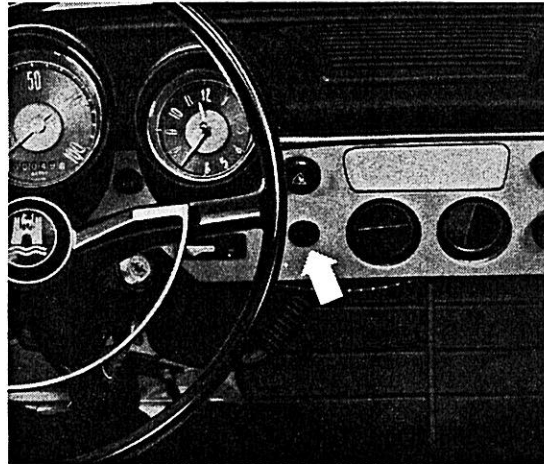

Fig. 17
- 26 – Install fuel filter (Fig. 17).
- 28 – Secure switch in one of the holes provided (Fig. 17).